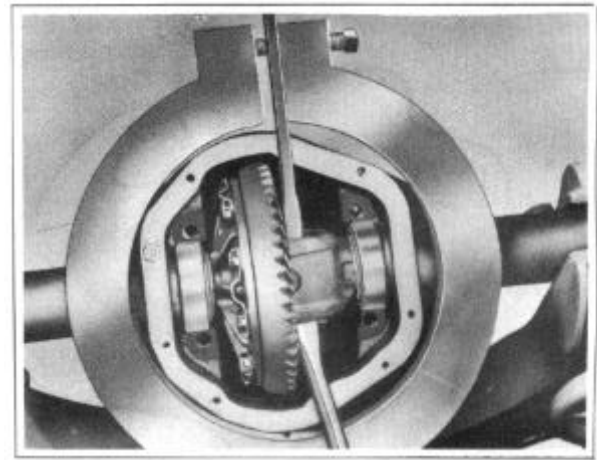

FIGURE 41
6. Remove differential assembly by prying it upward with two bars or large screwdrivers, placed under the differential case and resting against the housing as shown. Pry out assembly as straight upward as possible to prevent damage, Figure 41.